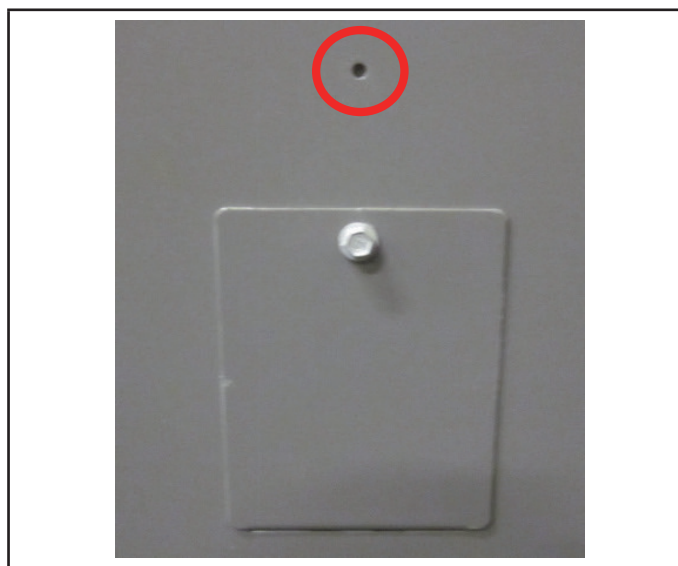

FIGURE 8. Circuit Breaker Cover Plate
- 1 - Locate the one clip located on the right side (see arrow) of each breaker (see figure 8). The clip secures the circuit breaker to the mounting bracket. Pull the clip to release the breaker from the mounting bracket and rotate the breaker to the proper position.
NOTE – If electric heat kit has only one circuit breaker, the breaker cover plate needs to be moved up and installed over the opening without the circuit breaker. Fasten the breaker cover plate to the access panel using the circled hole in figure 8. If the electric heat kit has two circuit breakers, the breaker cover plate is not required.